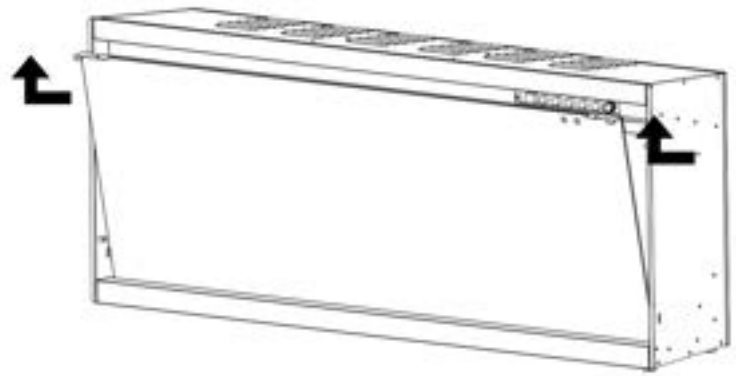

Fig. 2-4
D. Carefully lift the front glass up and away from the appliance. Place it face down on a soft, non-abrasive surface. (Fig. 2-4)